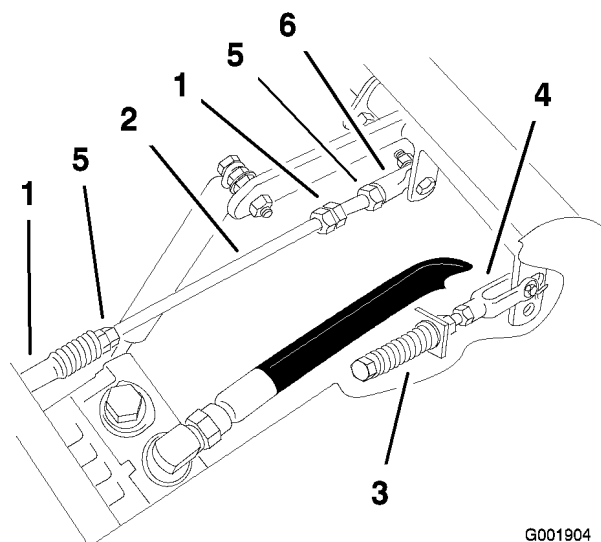

Figure 76
1. Loosen the locknuts at the ball joints on the pump control rod (Figure 76).
3. Adjust the pump rod length by rotating double nuts on rod, in the appropriate direction, until wheel is still or slightly creeps in reverse (Figure 76).
6. Tighten the locknuts at the ball joints (Figure 76).